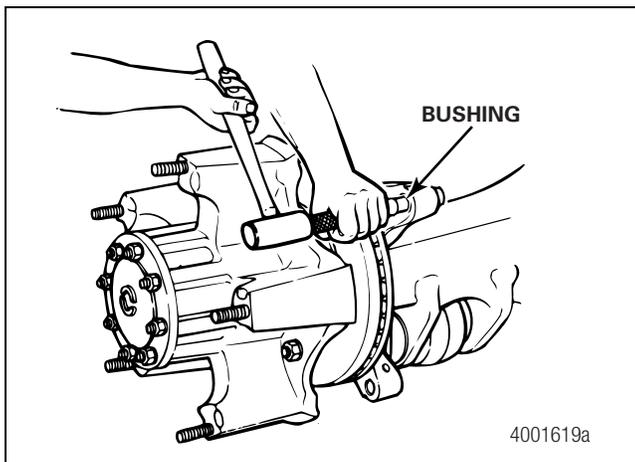

Figure 9.6
4. Drive the bushing into the center of the bore. The bushing must be the same distance from each end of the bore. Figure 9.6. The bushing should not extend past the end of the bore.